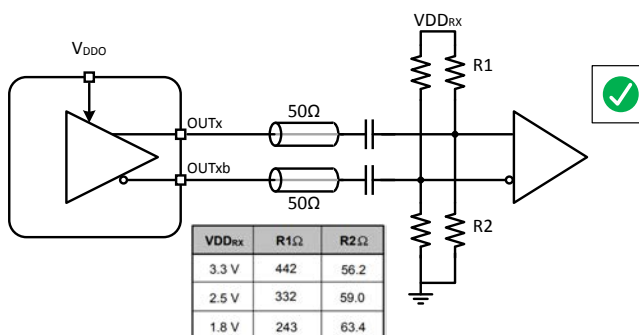

Figure 2.6. AC Coupled HCSL
- The resistor divider termination network in Figure 2.6 AC Coupled HCSL on page 5 should be used. This serves to (1) provide 50 ohm termination to each leg and (2) bias the common-mode level of the HCSL signal to the desired level.